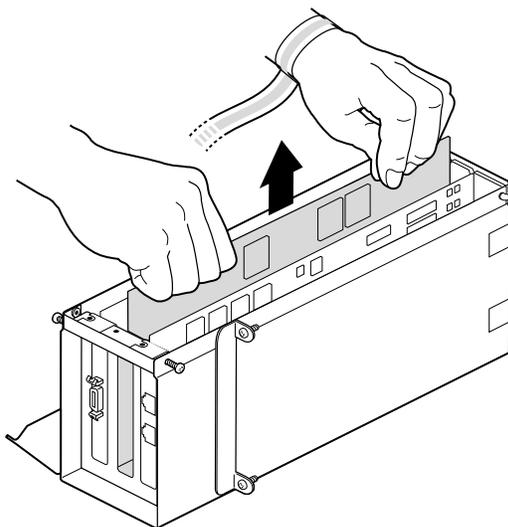

Figure 4-30 Extracting the PCI Board
2. Grasp the PCI board on the top edge to extract it, as shown in Figure 4-30.